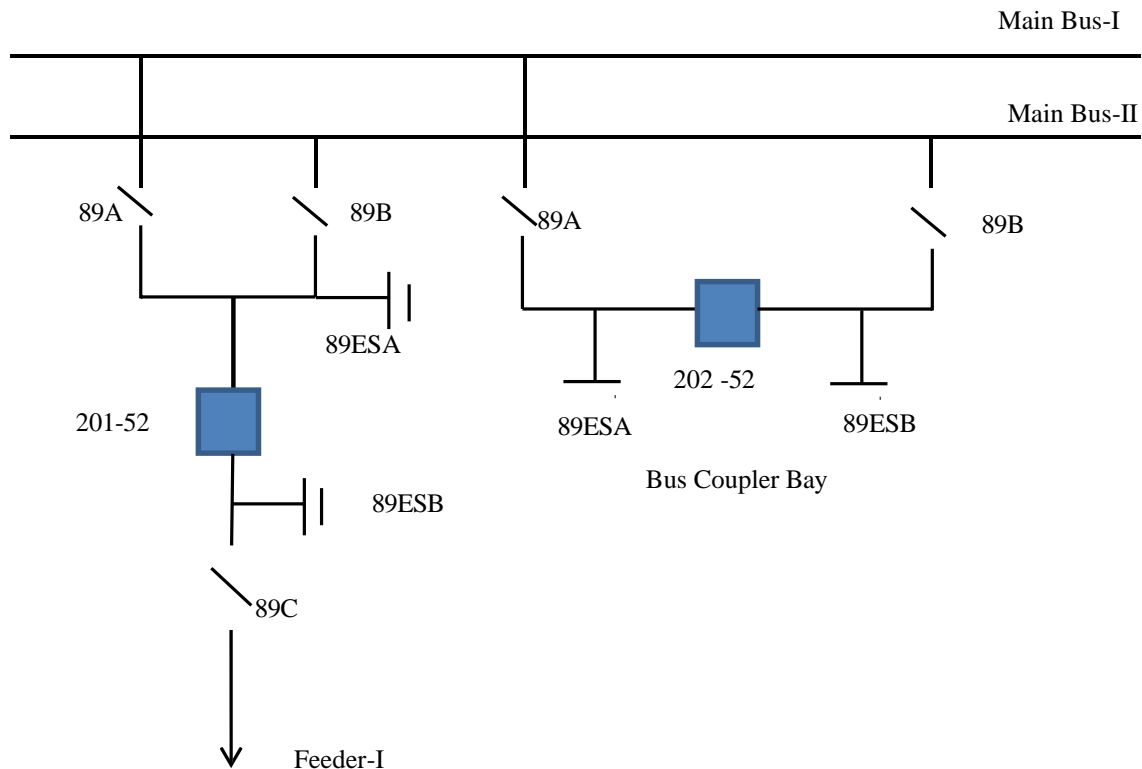

Figure- 02
2. Bus Coupler Bay CB (202)(Refer Figure-02)